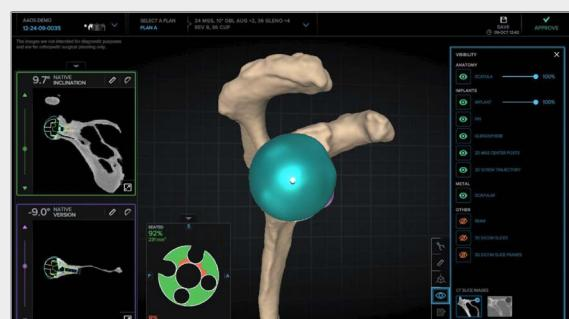

Figure 76. Glenoid viewer page with available visibility tool selections
- The “Glenoid Viewer” page will display the implants present at the time of CT acquisition and the Arthrex-selected glenoid and humeral implants in their proposed locations and orientations on both the 2D images and 3D model per the planning protocol. Users may show or hide the anatomy, implants, or proposed implants by selecting the appropriate toggle in the visibility tool as seen in Figure 76.